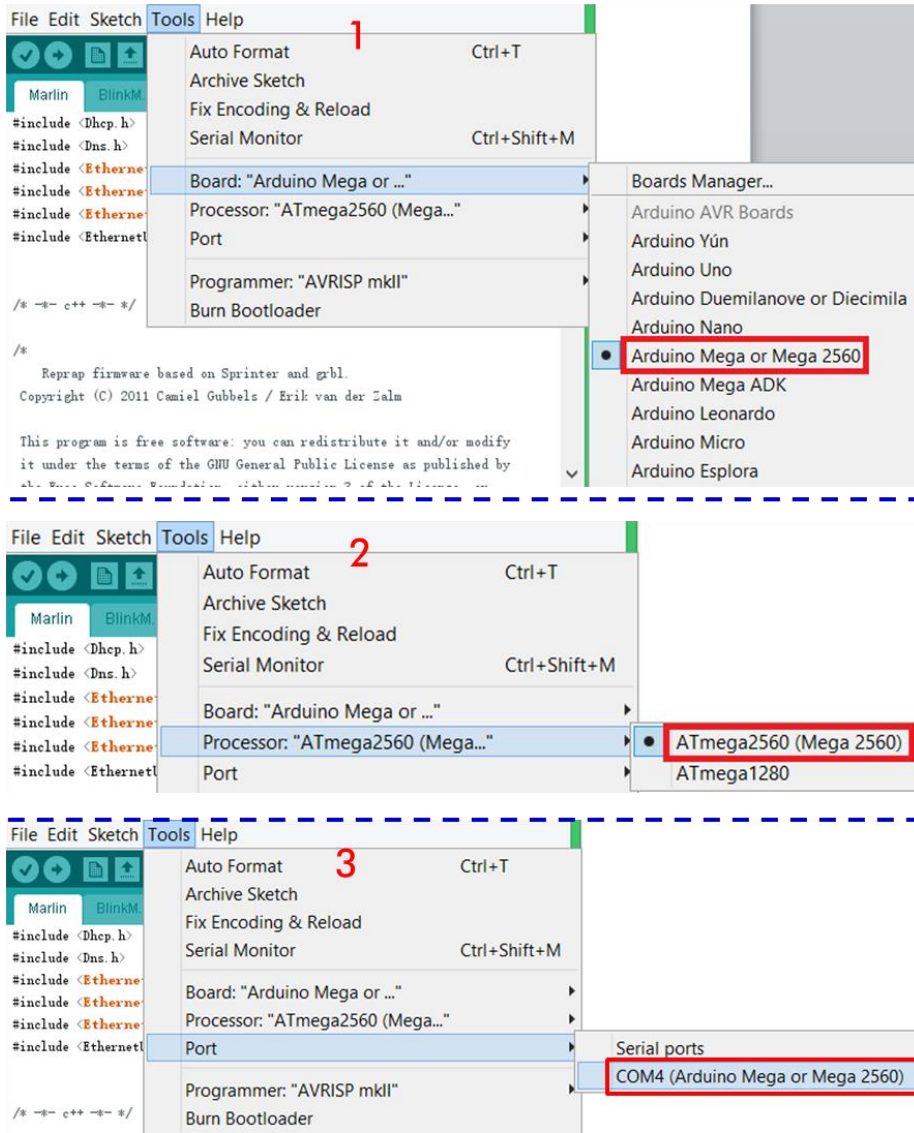

Fig. 35
Next, as Fig. 35 shows when the interface appears, please do as the follows: (1) click 'Tools'-'Board', and then select 'Arduino Mega or Mega 2560'; (2) select 'Tools'-'Processor'-'ATmega 2560(Mega 2560)'; (3) select 'Tools'-'Port'-'COM4 (Arduino Mega or Mega 2560)' (the same as ANYCUBIC Mainboard Port number).